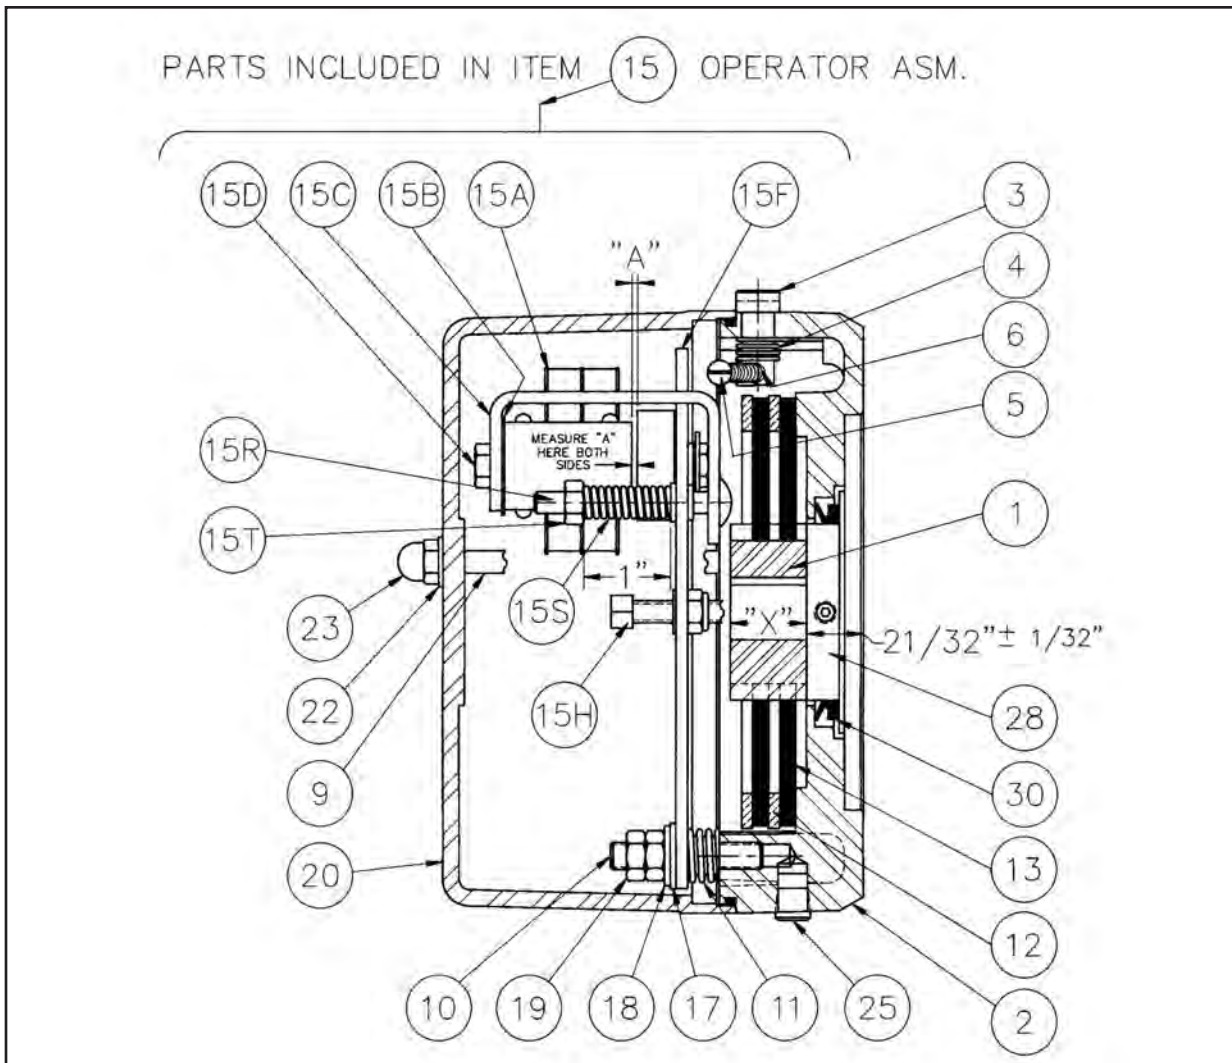

Figure 4
Refer to Fig. 4.
When total wear on a rotating friction disc (13) reaches 1/16", replace disc, referring to Figs. 4 and 10:
3. Remove operator assembly (15) by removing screws (16) and pivot stud (10). Item 10 has a hex socket in end of stud for removal.
Refer to Figs. 4, 6, and 10.
Refer to Figs. 4, 5, and 10.